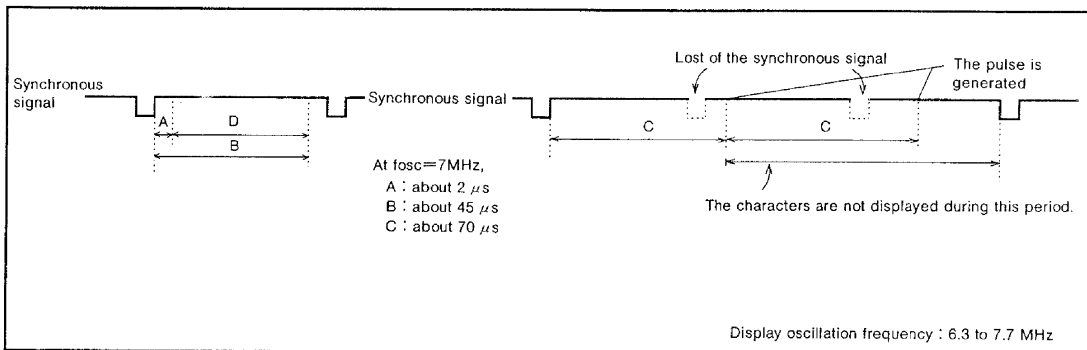

Fig. 12 Example of time base function
- (1) Time base 0—TBASE0 (DA6 of address $F1_{16}$)="1".
- Cut-off a noise during D period of Figure 12.
- (2) Time base 1—TBASE1 (DA7 of address $F1_{16}$)="1"
- Generate the pulse if the synchronous signal has not input during C period of Figure 12. And stop to display the character till the next synchronous signal is input.